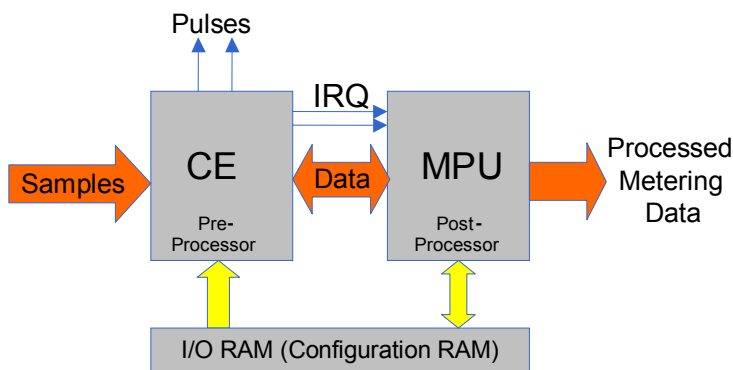

Figure 29: MPU/CE Data Flow
The data flow between the Compute Engine (CE) and the MPU is shown in Figure 29. In a typical application, the 32-bit CE sequentially processes the samples from the voltage inputs on pins IA, VA, IB, and VB, performing calculations to measure active power (Wh), reactive power (VARh), A2h, and V2h for four-quadrant metering. These measurements are then accessed by the MPU, processed further and output using the peripheral devices available to the MPU. Figure 29 illustrates the CE/MPU data flow.